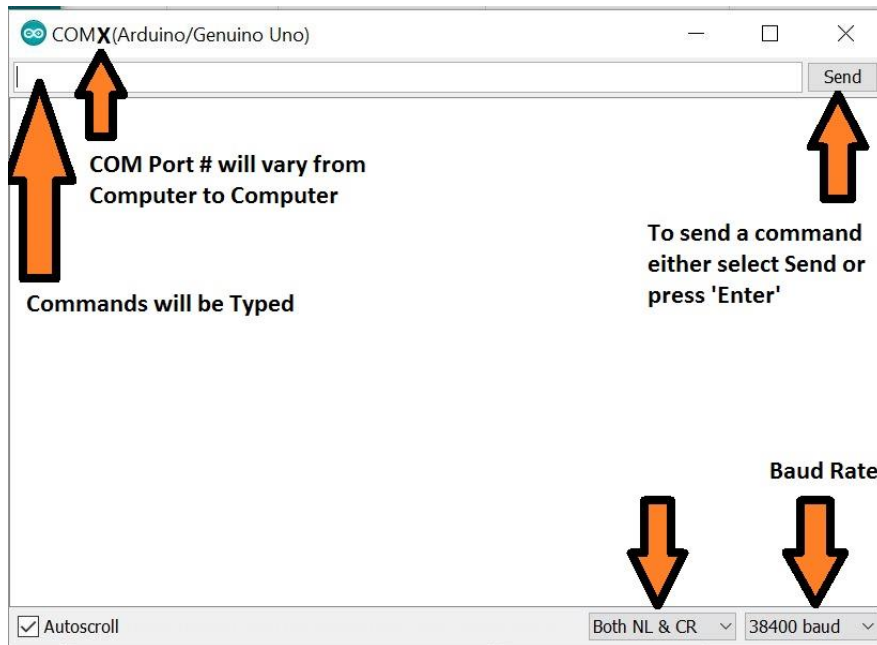

Figure 4. Arduino Serial Monitor
- 38400 baud rate should be selected and "Both NL & CR" as seen in figure 4